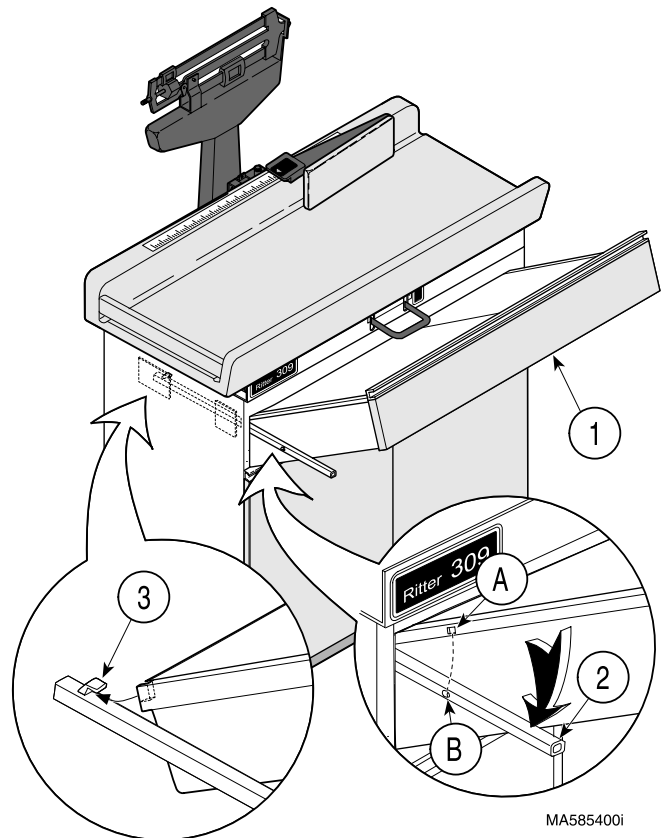

Figure 4-4. Drawer Removal / Installation
- (1) Pull drawer (1, Figure 4-4) out until resistance is felt. Then, on both sides of drawer, pull sides of drawers outward until locking slots (A) of drawer are free of tabs (B) on door glides (2). Remove drawer (1) from table.
- (2) Install beam scale assembly (9) on platform (10) and secure with four nuts (8),
- (3) Lift up slightly on calibrating arm (6) and then connect wire hook (7) to calibrating arm.
- (4) Install upholstered table top (4) on base (5) and secure with four washers (3), lockwashers (2), and screws (1).
- (5) Install drawer (1, Figure 4-4) by positioning drawer on drawer glides (2), making sure rear of drawer is contained by two hooks (3); then